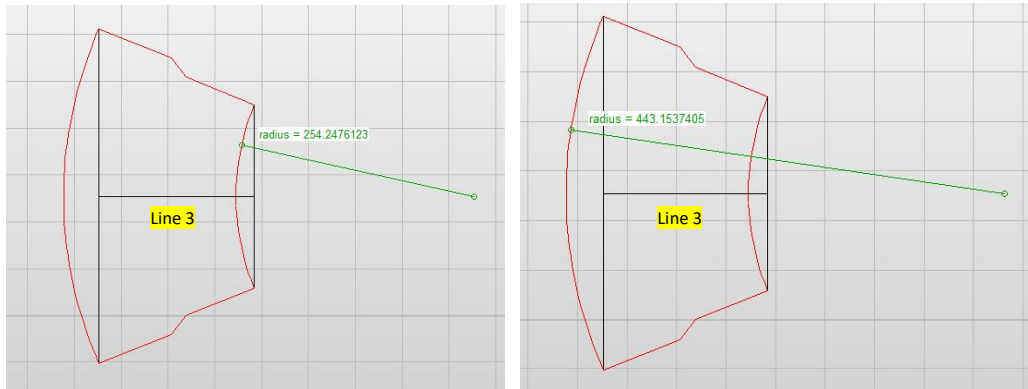

Figure 40
5. **MEASURE:** To measure the radii of both arcs select the radius measurement tool **RADIUS** on the *Main Toolbar* and click on the arc elements to display the radii (Figure 40).